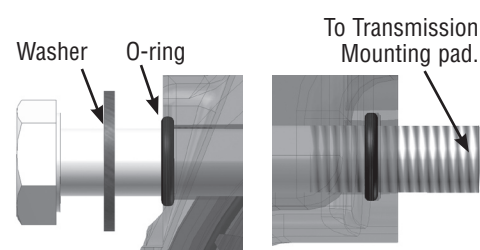

Figure 4. Capscrew, washer and o-ring inserted into PTO mounting pad.
**NOTE:** Place the washer onto the long capscrew before inserting into the housing. There is an o-ring groove located inside this hole near the mounting pad. Be sure that the o-ring remains in position as the capscrew is inserted. (See Figure 4)